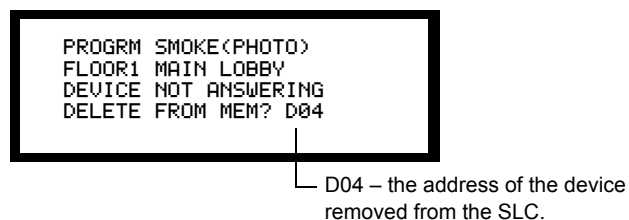

Figure 61 Sample Missing Device Screen
3. When finished identifying SLC devices, the control panel displays a screen, indicating a missing detector at SLC address 04 as shown in Figure 61.